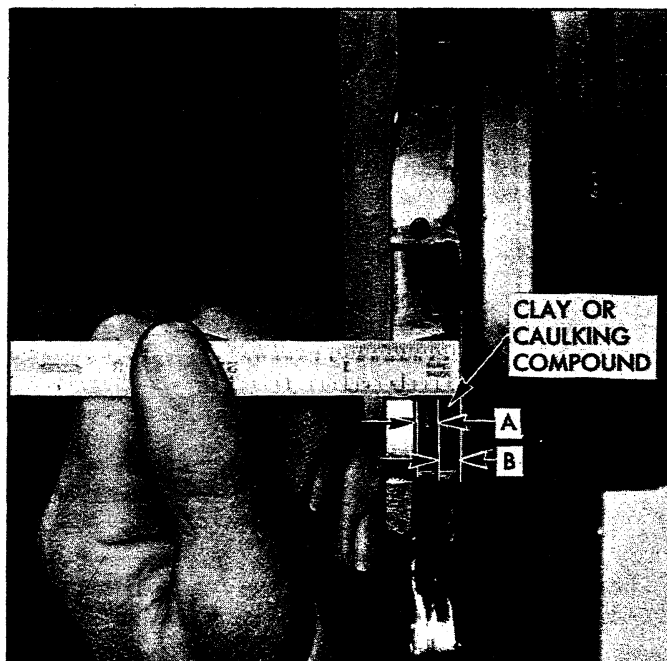

Fig. 24—Checking Adjustment of Striker
2. To determine if door lock striker emergency spacers are required, apply modeling clay or body caulking compound in the door lock striker notch where the lock extension engages, and then close the door to form a measurable impression in the clay or caulking compound, as shown in Figure 24. Remove all clay or compound when adjustment is completed.